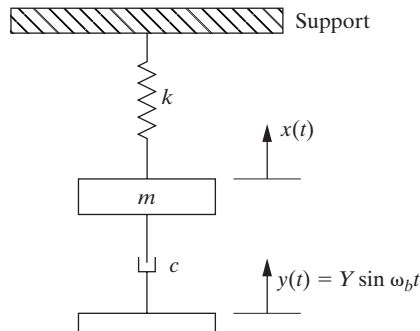

Figure P2.50
- 2.50.** Consider the base-excitation problem for the configuration shown in Figure P2.50. In this case, the base motion is a displacement transmitted through a dashpot or pure damping element. Derive an expression for the force transmitted to the support in steady state.